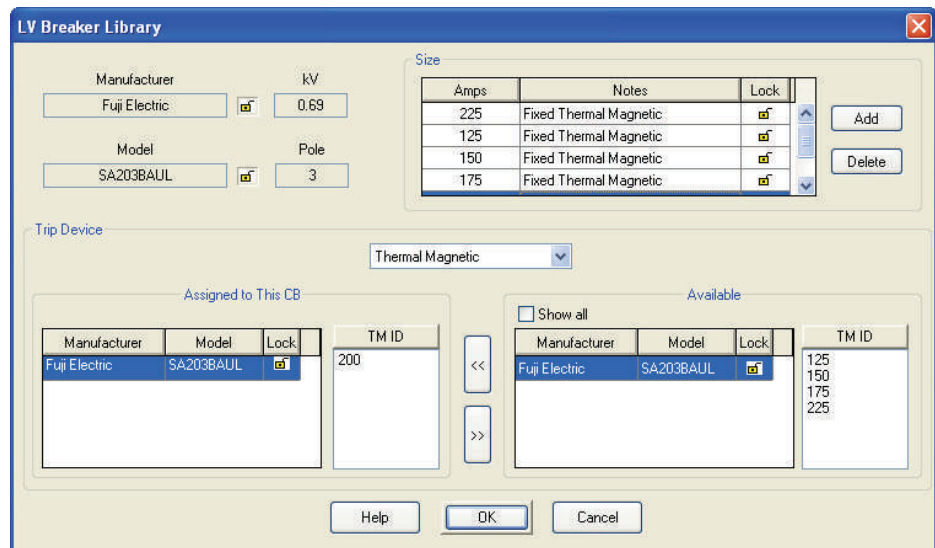

Fig. 27
5. The end result is similar to Fig. 27.